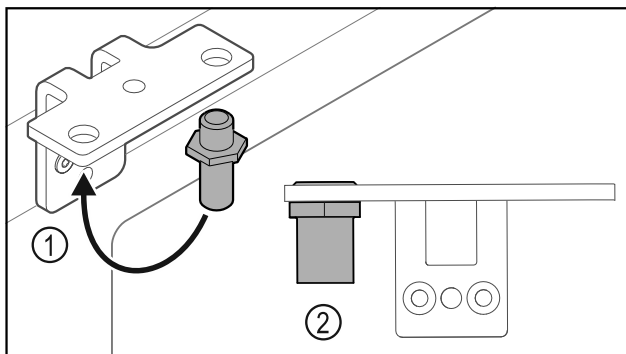

Fig. 29
- ▶ Put the pin back into the hinge Fig. 29 (1).
- ▶ Tighten the pin Fig. 29 (2) to a **torque of 12 Nm**.